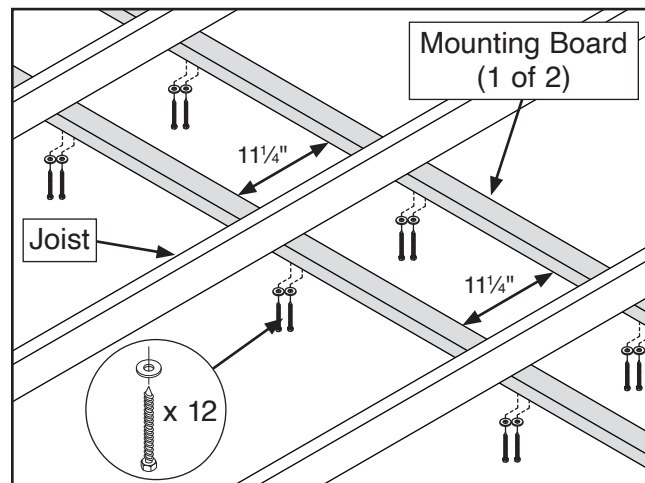

Figure 26. Attaching mounting boards to ceiling joists.
1. Attach (2) 2" x 4" mounting boards to ceiling joists $11\frac{1}{4}$ " apart using (12) $\frac{3}{8}$ " x 5" lag bolts and (12) $\frac{3}{8}$ " flat washers (see **Figure 26**).